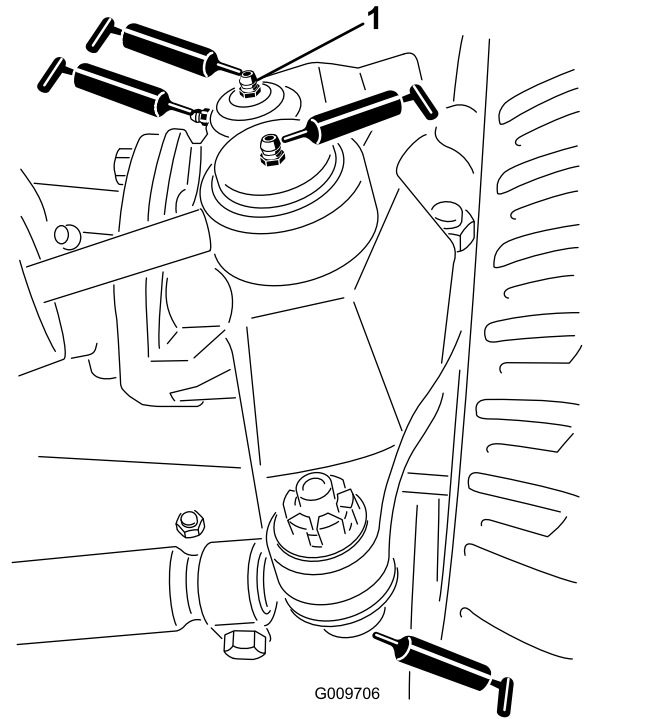

Figure 69
- Steering cylinder ball joints (2) (Figure 69)
- Tie rod ball joints (2) (Figure 69)
- King pin bushings (2) (Figure 69). **The top fitting on the king pin should only be lubricated annually (2 pumps).**